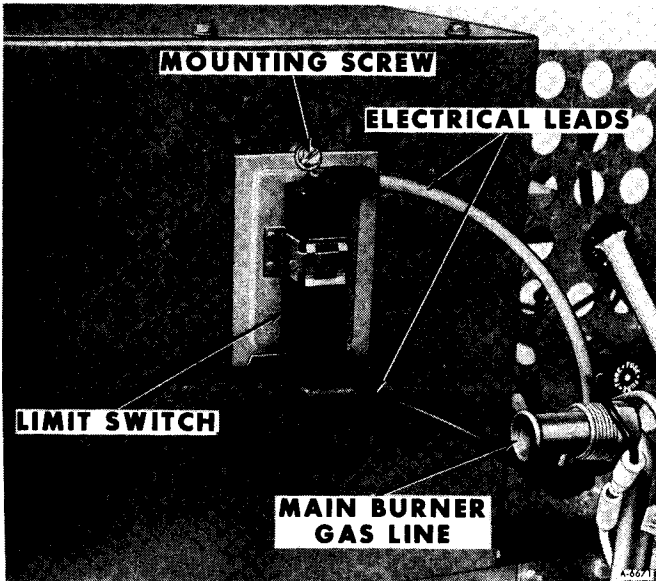

Figure 12— Limit Switch Installed
2. Disconnect electrical leads from limit switch (figure 12).
1. Carefully install limit switch into opening on front of combustion chamber assembly. Retain switch in position with mounting screw (figure 12).